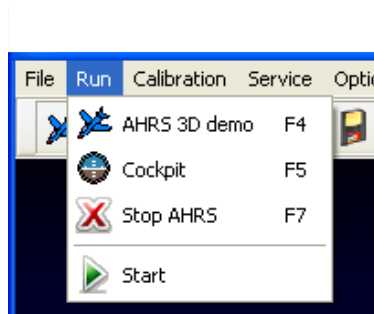
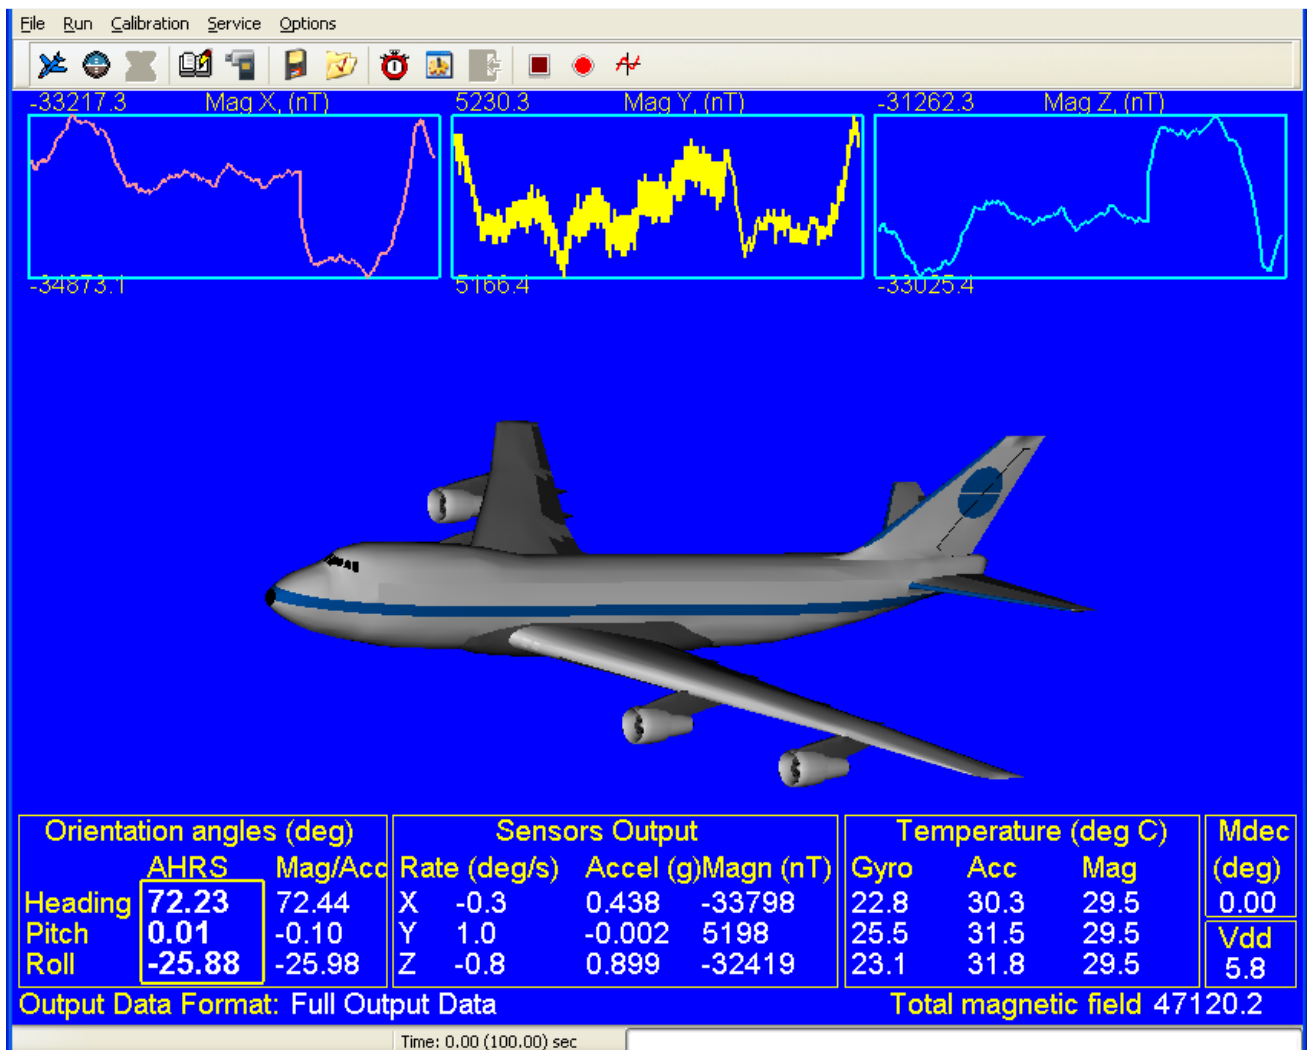
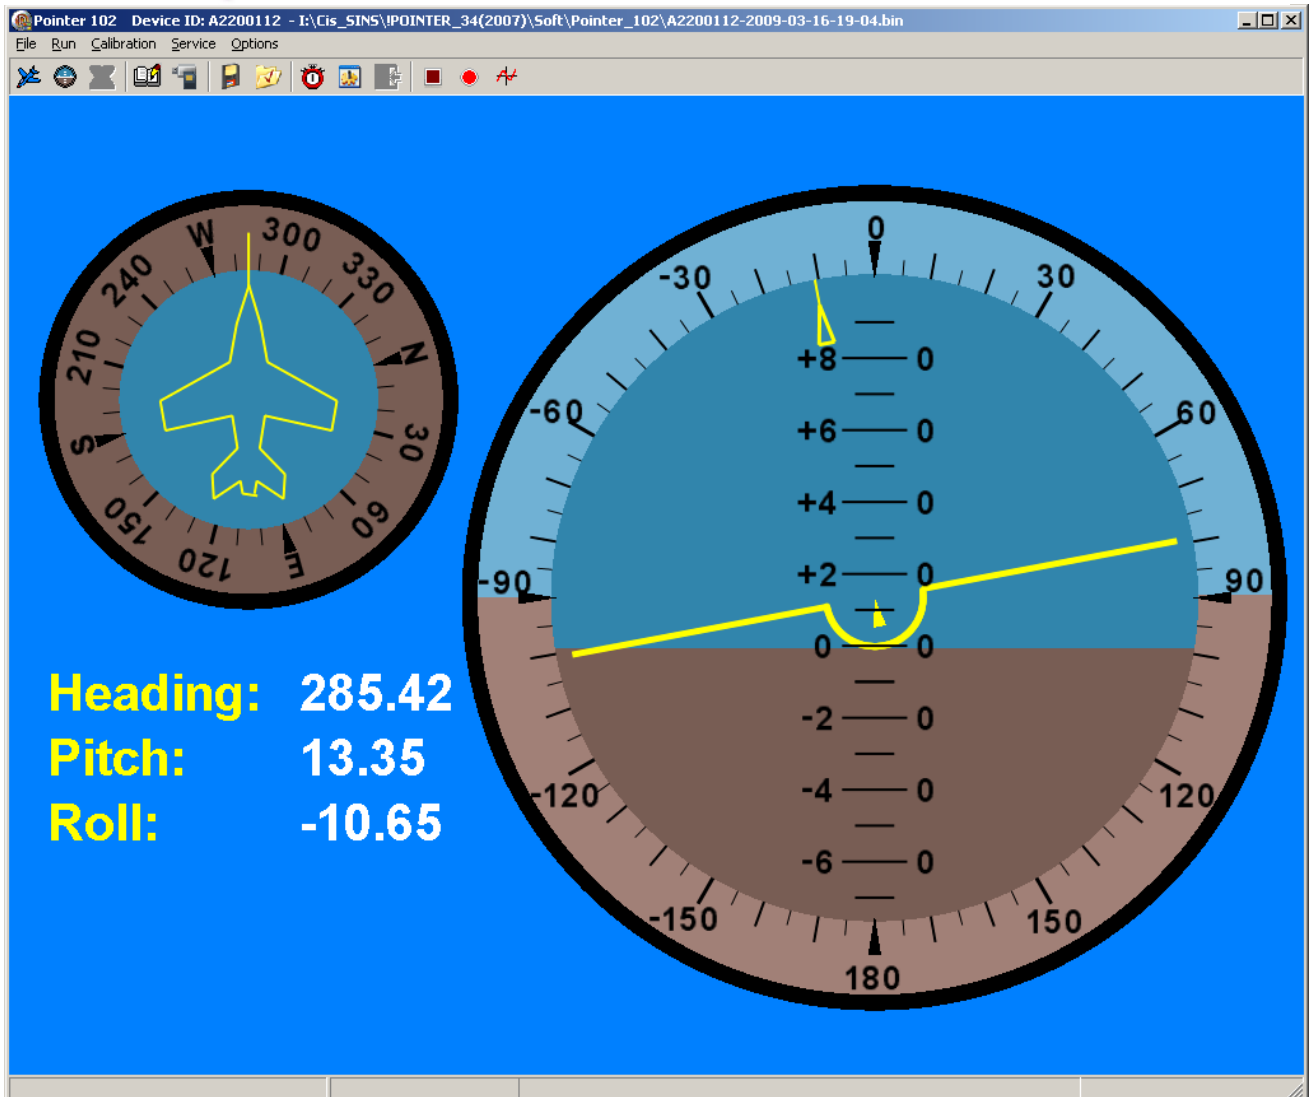

Fig. 3.3
Fig. 5.1
Fig. 5.3
Run Menu contains the AHRS control commands (Fig. 3.3).
Before working with the «Options» menu, it is desirable to select «**Stop “AHRS”**» in the «Run» menu or press **F7** key (Fig. 3.3).
Control of the AHRS and control of the parameters input through measurement channels is done by the commands in the «**Run**» menu (Fig. 3.3). This menu contains next items:
- **AHRS 3D Demo** opens window in which current orientation angles of the AHRS are presented as a spatial orientation of an airplane (see Fig. 5.1). To go to this visualization stile select «**AHRS 3D Demo**» from the «**Run**» menu (Fig. 3.3) or click  button on the toolbar.
Current orientation angles are displayed in the lower part of the window (Fig. 5.1). Additional displayed data depend on selected output data format (see Appendix B for details). If «Full Output Data» format is chosen then next data are displayed in the lower part of the window (Fig. 5.1):
If other than «Full Output Data» data format is chosen then only proper data will be displayed in the lower part of the window (Fig. 5.1). But in any case orientation angles are always displayed.
- **Cockpit** – opens window allowing to show current attitude of the AHRS in «Cockpit display» style (see Fig. 5.3). To start operation in this mode select «Cockpit» in the «Run» menu (Fig. 3.3) or click «Cockpit»  button on the toolbar, and window shown in the Fig. 5.3 will appear.
Step 8. Select «**Cockpit**» from the «**Run**» menu (Fig. 3.3) or click  button on the toolbar (Fig. 3.1). The window shown in Fig. 5.3 will appear.
You can switch to other visualization mode by selecting «**AHRS 3D Demo**» from the «**Run**» menu (Fig. 3.3) or clicking  button on the toolbar, or pressing «**F4**». The window shown in Fig. 5.1 will appear.
Step 13. To close standard operation mode window (Fig. 5.3) select «**Cockpit**» from the «**Run**» menu (Fig. 3.3), or click  button on the toolbar (Fig. 3.1). To close standard operation mode window (Fig. 5.1) select «**AHRS 3D Demo**» from the menu «**Run**» (Fig. 3.3), or click  button, or press key «**F4**».